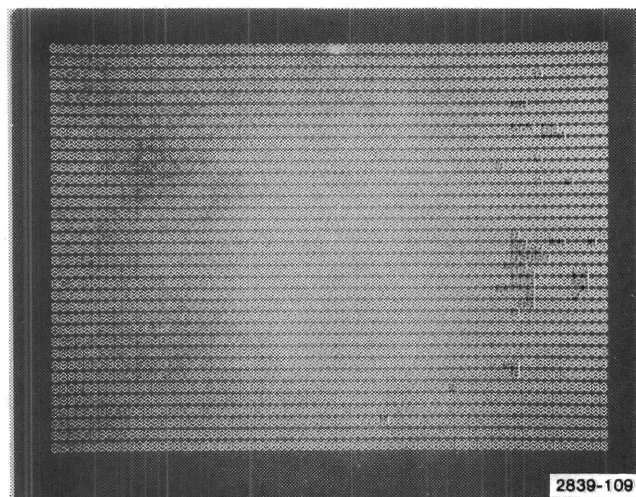

Figure 5-19. Display Conditions.
3. Increase the OP LEVEL adjustment or the Normal Intensity adjustment or both in 5V increments if breaks occur in the hard copy pattern. Page the screen to repeat the hard copy pattern for the best picture with a minimum number of breaks. An example of drop out is shown in Figure 5-19.